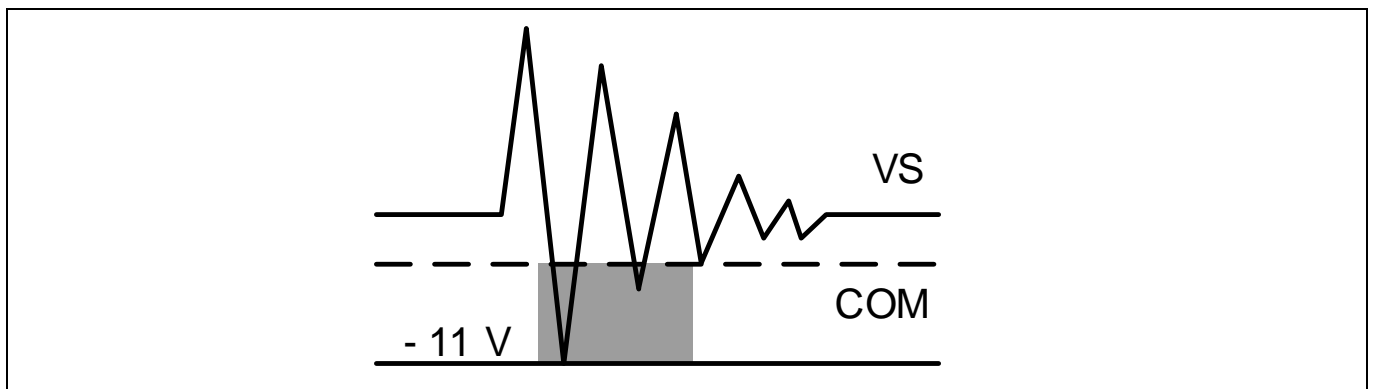

**Figure 21 Negative  $V_S$  transient SOA for 2ED2108 (4) S06F (J) @  $V_{BS}=15\text{ V}$**
Infineon's HVICs have been designed for the robustness required in many of today's demanding applications. An indication of the 2ED2108 (4) S06F (J)'s robustness can be seen in Figure 21, where the 2ED2108 (4) S06F (J)'s Safe Operating Area is shown at  $V_{BS}=15\text{ V}$  based on repetitive negative  $V_S$  spikes. A negative  $V_S$  transient voltage falling in the grey area (outside SOA) may lead to IC permanent damage; viceversa unwanted functional anomalies or permanent damage to the IC do not appear if negative  $V_S$  transients fall inside the SOA.